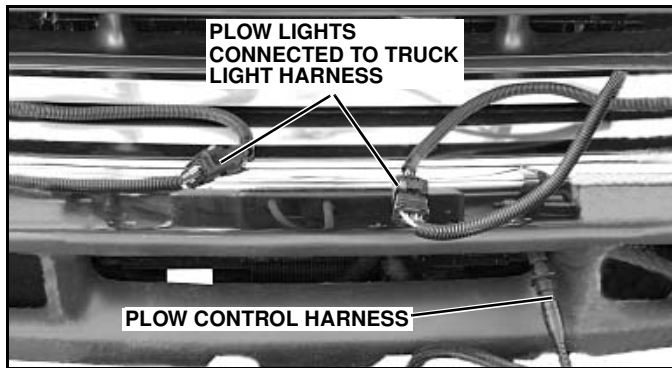

Figure 1-31
2. Disconnect the plow lights from the truck light harness. (See Figure 1-31). Disconnect the plow control harness and replace the protective cap.